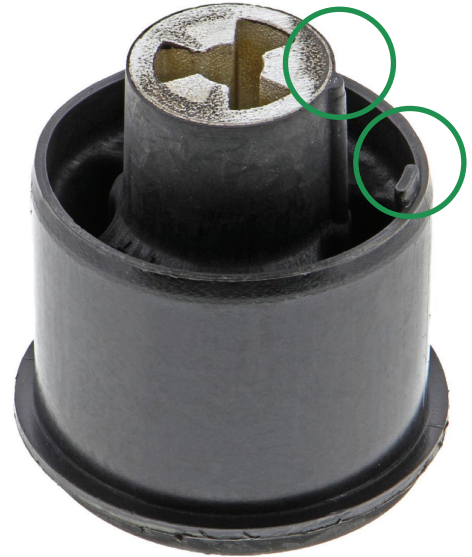

Figure 1: Tab indicator
- Ensure correct orientation and direction of axle beam bushing during install. Generally, this will mean locating the clocking indicator (this may be a notch, arrow or tab) on the bushing face or sleeve and aligning it to the edge of the trailing arm. (Figure 1)